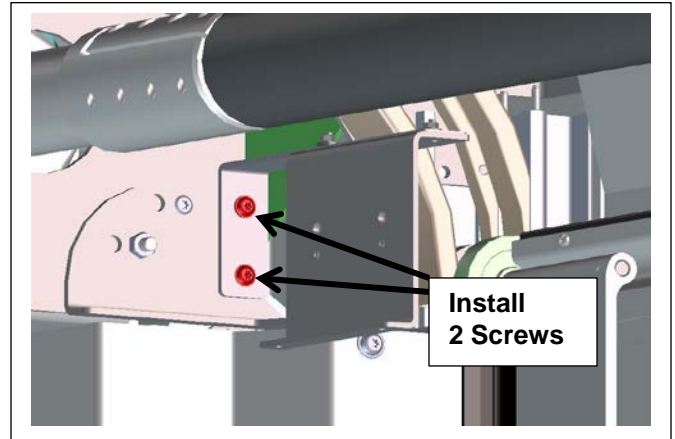

Figure 77
2. Attach the assembled bracket to the console. (See Figure 77.)